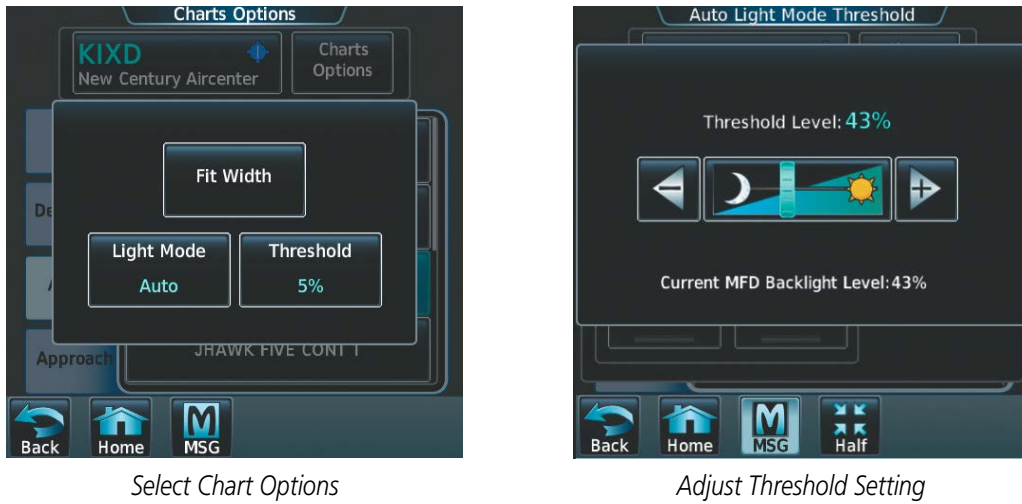

Figure 8-28 Setting Day/Night Switching Threshold
- 2) Touch the **Light Mode** Button (Figure 8-28).
- 4) Touch the **Threshold** button (Figure 8-28). The Auto Light Mode Threshold window is displayed.